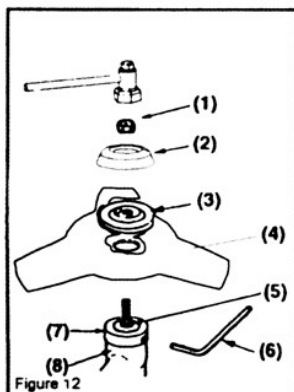

Figure 12
- (1) Bolt
- (2) Clamp
- (3) Main pipe
- (4) Safety guard
■ INSTALLING THE METAL BLADE (Figure 12)